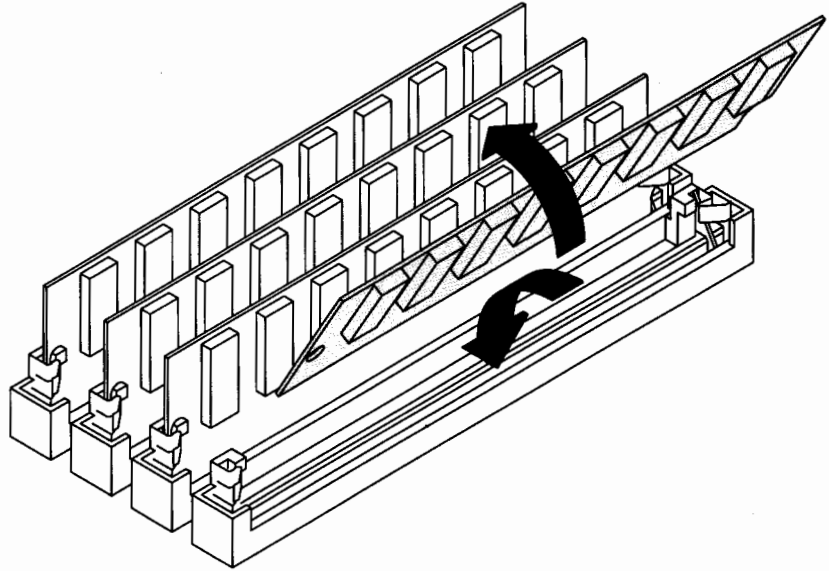

Figure B-19. Installing Memory Boards
3. To install a new memory board, hold the board with its top edge tilted toward the back of the system unit. Note that the memory board is notched on one end to fit the keyed connector. Press firmly on the memory board to ensure that it is fully seated. Snap the board into place by moving it to a vertical position. Its ends snap into the connector's spring clips. If the board is installed properly, the plastic alignment pins on either end of the connector will be aligned with the holes on the memory board. Figure B-19 shows how to install a memory board.